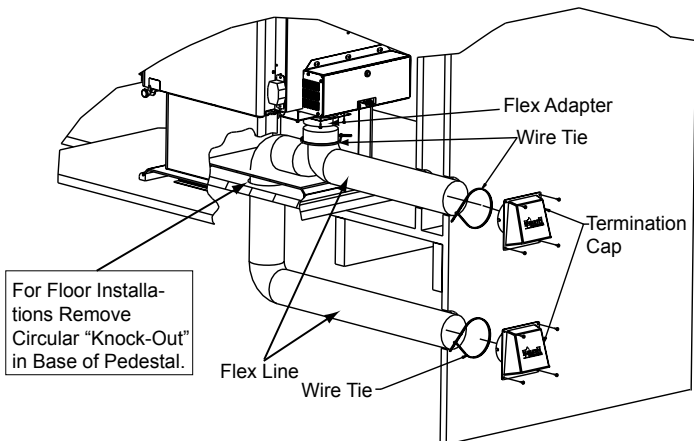
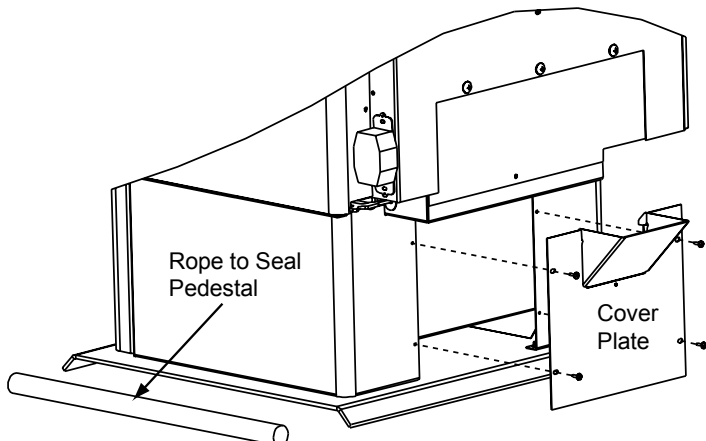

Figure 18.1 - Floor & Rear Installation
Figure 18.2
Cover plate and sealing rope (see Floor Installation Alternative below, **Figure 18.2**)
2. Using a #2 Phillips screw driver attach the flex adapter to the appliance using 4 screws (**Figure 18.1**)
In some instances you may not be able to install the flex pipe as show in **Figure 18.1**. If that is the case, you will need to order SRV7033-041 which includes a cover plate and sealing rope as shown in **Figure 18.2**. The goal is to seal the pedestal so no room air can leak into the pedestal or for cold air infiltration.